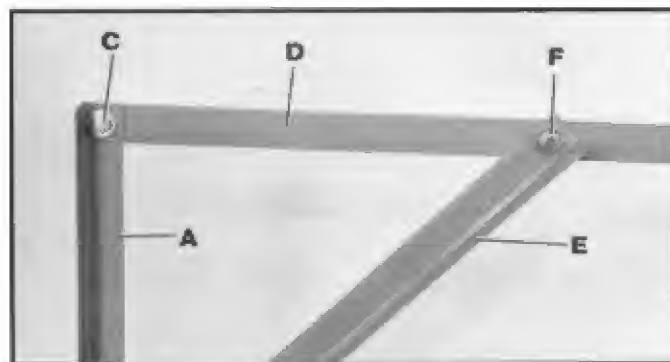

Fig. 20
2. Assemble the remaining four foot-long angle section (with five holes) (D) Fig. 20, horizontally to the top of vertical angle section (A) which was assembled in **STEP 1**. Fasten with a 1-1/4 inch-long screw (C), two flat washers, lockwashers and hex nut.
3. Assemble slotted hole end of 34 inch-long angle support bar (E) Fig. 20, to horizontal angle section (D) and fasten with 1-1/4 inch-long hex head screw (F), two flat washers, lockwasher and hex nut as shown. **NOTE:** End of support bar (E), with 45 degree angle, should be at the bottom.